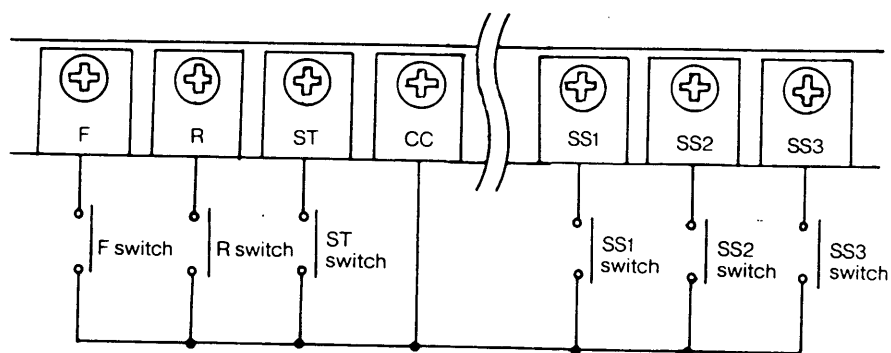

Fig. 8-23 Connection of the terminals for multispeed run signals
- 1) Connect the "SS1, SS2 and SS3 switches" between SS1, SS2, SS3 and CC on the control circuit terminal block respectively as shown in Fig. 8-23.